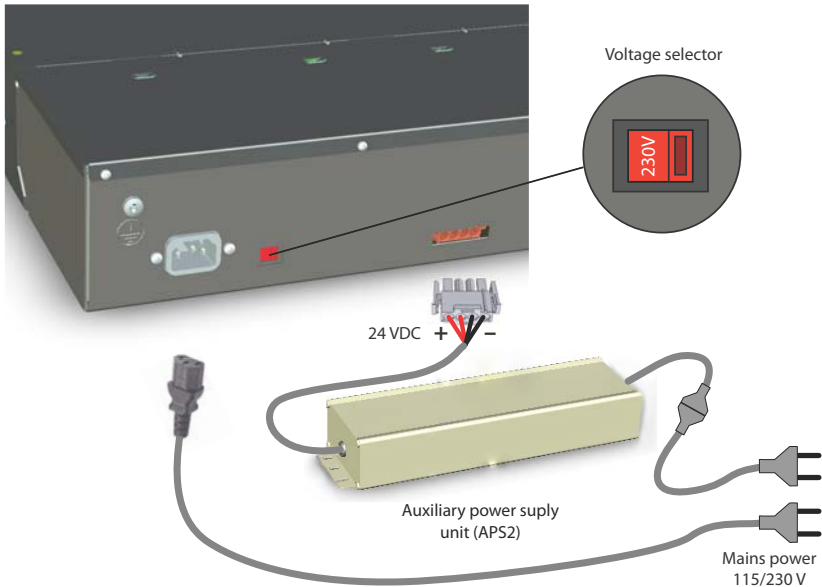

Fig. 24 Power supply to the communication server
- The voltage selector must be set to the voltage of the connected mains power (see Fig. 24).